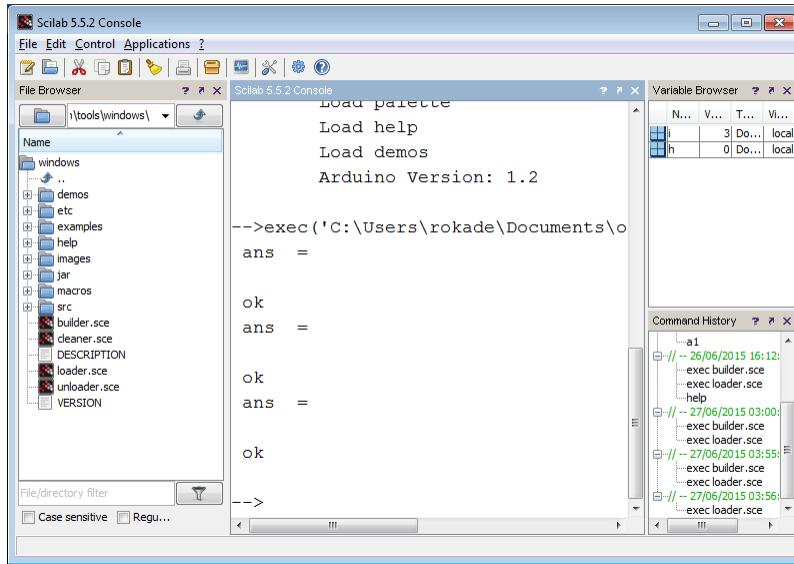

Figure 3.13: Scilab test code output
7. To execute this code, on the menu bar, click on the Execute, option. Then choose File with no echo. The output will appear on the Console as shown in Fig. 3.13. As shown in the figure, we see the response of this code as “ans = ” and “ok” three times. The code basically gives some input to Arduino three times and the program inside it returns “ok” three times. This code thus confirms the working of Scilab-Arduino toolbox. The code also confirms that the firmware inside the Arduino is correct. It is alright if one or two of the attempts out of three give a blank response. But all the three responses certainly should not be blank5.